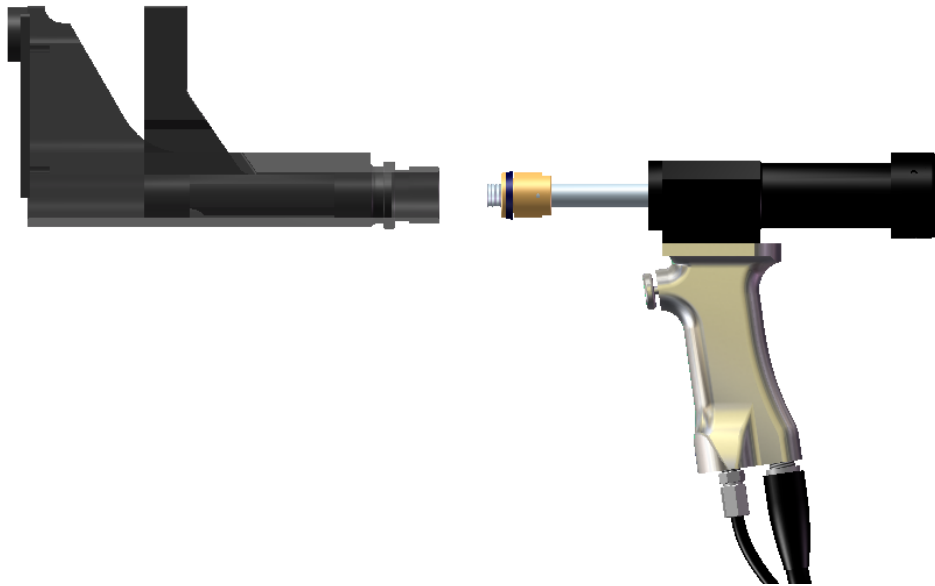

Figure 4-5
8. Screw the LBOA onto the Little Brute Puller Unit (Figure 4-5). Connect the piston first, then connect the housing. Tighten the lockring.